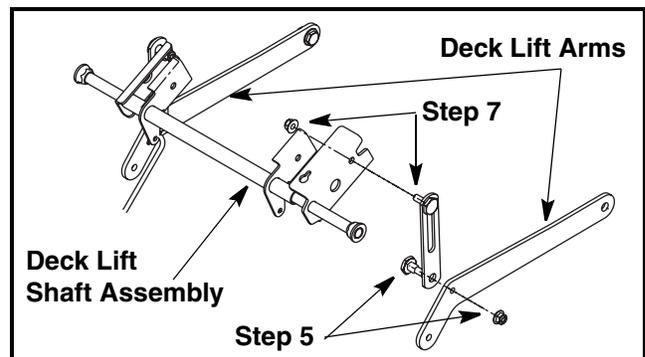

FIGURE 2
5. Using a 9/16" socket and ratchet and a 15/16 box wrench, remove the lower shoulder bolt and nut from from both sides where the lift link attaches to the deck lift arm. See Figure 2. Discard lock nuts.
7. Using a 9/16" socket and ratchet and a 15/16 box wrench, remove the upper shoulder bolt and nut from from both sides where the lift link attaches to the deck lift shaft assembly. See Figure 2. Discard the links and lock nuts.